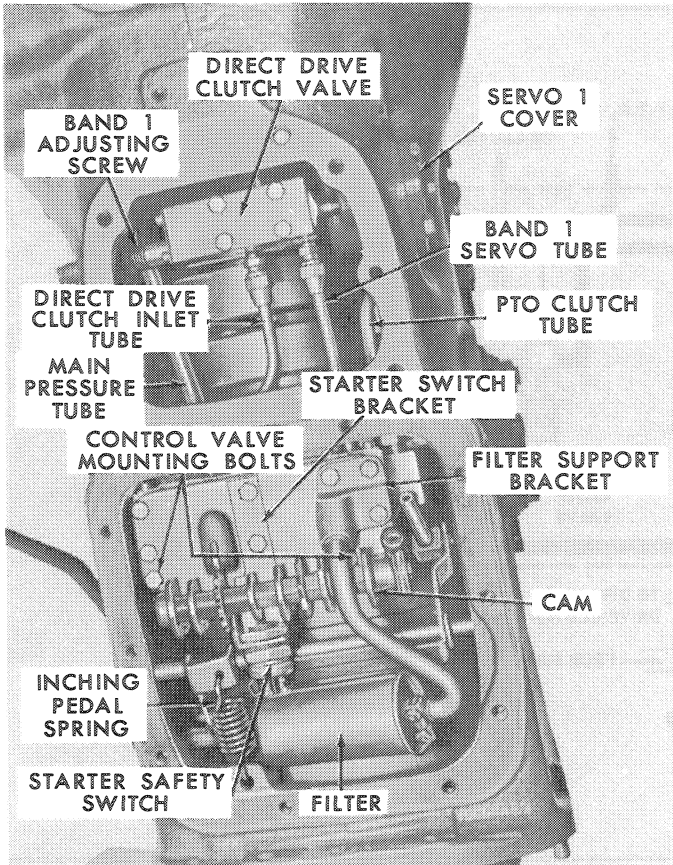

Figure 14
The control valve assembly is mounted directly on top of the distributor, as shown in Figures 1 and 14, and consists of upper and lower body assemblies. The control valve is actuated by a flexible cable coming from the selector assembly which rotates the cable wheel and camshaft assembly attached to the valve upper body. See Figure 14. Six cam followers operate the six spool valves in the lower body which control the fluid flow to three clutch pistons and three band servos. A safety switch mounted on the control valve permits the tractor engine to be started only when the selector lever is in the park (P) position. This switch is actuated by the camshaft assembly. As the selector is moved to park (P), the cam closes the switch completing the circuit to the tractor starter switch. Four adjustable spring-loaded, plunger-type valves are incorporated in the valve upper body to control the system pressure, lube pressure, and regulate or sequence oil flow first to the direct circuit. In addition, in the valve lower body, feathering valves are incorporated to control the oil flow in the transmission and P.T.O. indirect circuits. All of the valve components are shown in Figures 77 and 78.
tary gear set rotating as an assembly for direct drive gear ratios. Since band 1 is used to hold the "A" sun gear for the overdrive ratios, it is essential that both band 1 and the direct drive clutch are not simultaneously applied; otherwise, a lock-up condition would occur in the "A" planetary system. For this reason the fluid flow to the direct drive clutch pack is controlled by a hydraulic interlock arrangement. The interlock or direct drive clutch valve, as shown in Figures 14 and 16, is located in the servo 1 opening in the inside of the transmission case. Direct drive clutch valve actuation is therefore directly
The filter assembly, shown in Figure 14, will remove foreign material that is carried in suspension in the transmission fluid. The filter element is a replaceable pleated paper type with a pressure relief valve located in the filter inlet set at 7 to 9 psi to permit the filter to bypass fluid if the element becomes clogged. The filter element is to be replaced after the first 50 hours and every 1200 hours thereafter.